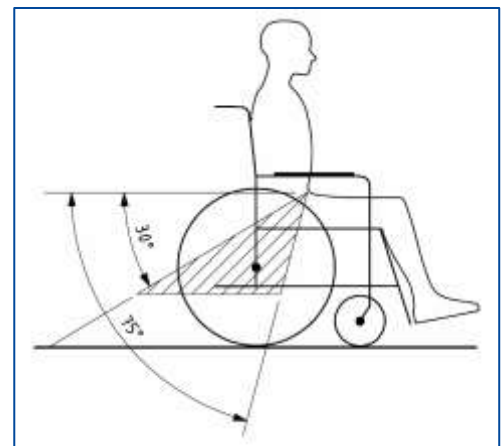

Figure 5 **Angle of pelvic belt**
The EM brakes function automatically, **only if** free-wheel lever (13) is in braking position (A), see Figure 5. In this situation, the brakes start braking if: